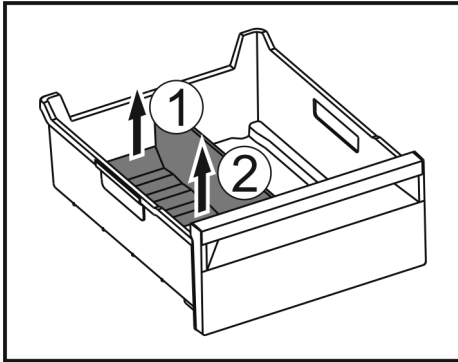

Fig. 122
- ▶ Lift the rear part of the ice compartment divider. Fig. 122 (1)
- ▶ Remove the ice compartment divider upwards. Fig. 122 (2)